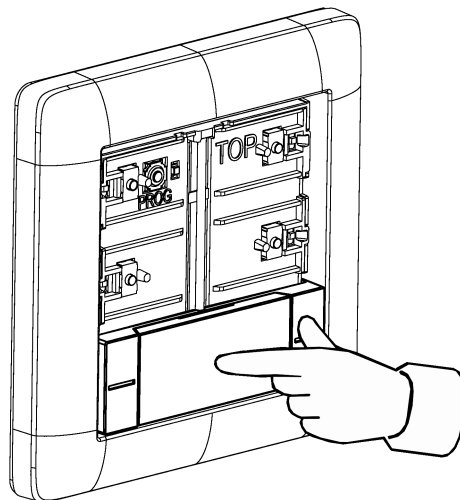

Figure 6: Press lightly in the middle of the rocker
- Press in the middle of the rocker (see figure 6).